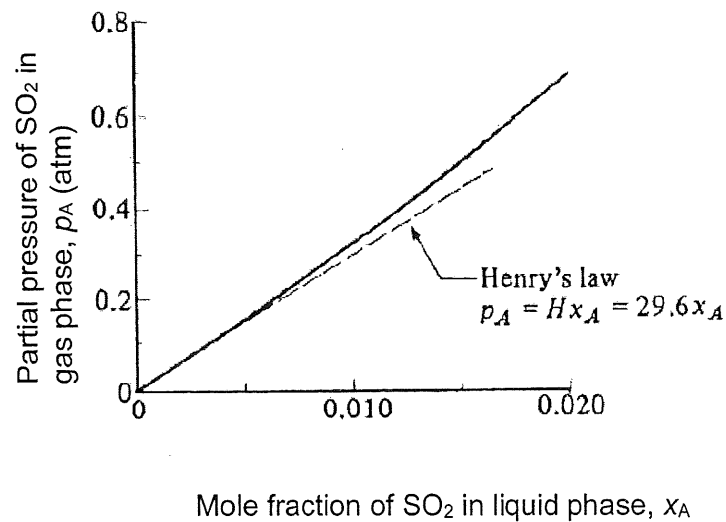

Figure 1: Equilibrium plot for SO_2 -water system at 293 K (20°C).
A gas mixture with a total pressure of 2.026×10^5 Pa, consisting of air and SO_2 , is brought into contact with pure water in a single-stage equilibrium mixer at a temperature of 293 K. The partial pressure of SO_2 in the original gas is 1.52×10^4 Pa. The inlet gas contains a total of 5.70 kg mol, while the inlet water contains a total of 2.20 kg mol. The exit gas and liquid leaving the mixer are in equilibrium. Figure 1 provides the equilibrium data required to answer the following questions:
- From Henry's Law equation in Figure 1, employ the equation of y_{A1} in terms of x_{A1} (3 marks)